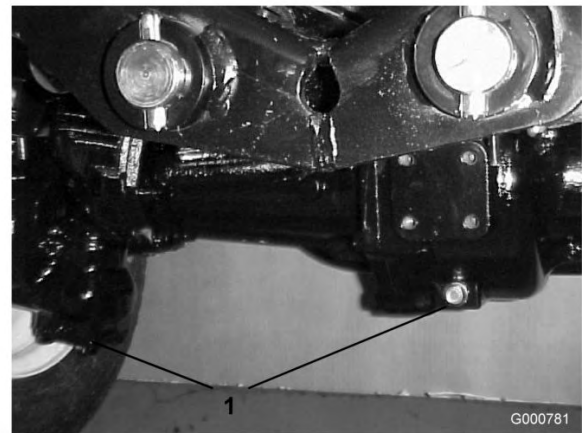

Figure 71
2. Clean the area around the 3 drain plugs, 1 on each end and 1 in the center (Figure 71).